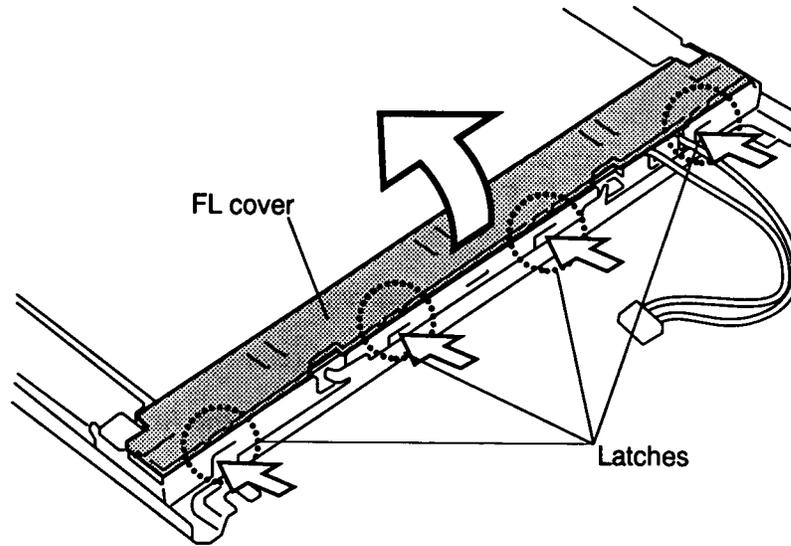

Figure 4-33 Removing the FL cover
5. Push the **four latches** to remove the **FL cover** and remove it (Figure 4-33).
2. Lay the **FL cover** in place and snap the four **latches** to secure the cover (Figure 4-33).